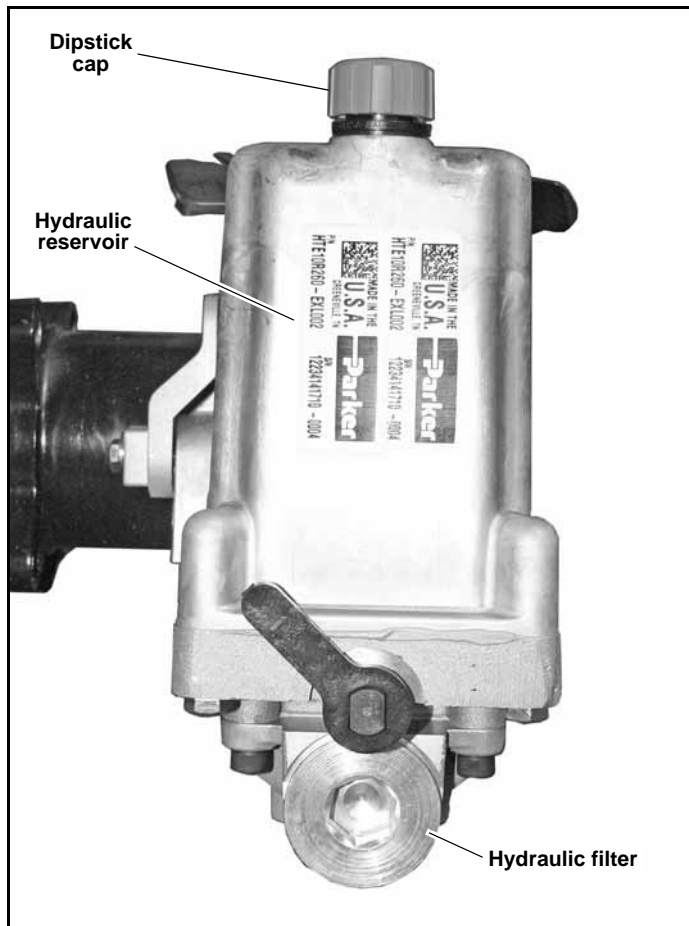

Figure 4-3
**IMPORTANT:** Never use hydraulic or automatic transmission fluid in this system; use only specified oil. Remember, dirt is the primary enemy of any hydraulic system. Figure 4-3
Check oil level in hydraulic system after every 50 hours of operation or weekly, whichever occurs first. Check more often if system appears to be leaking or otherwise malfunctioning. Figure 4-3